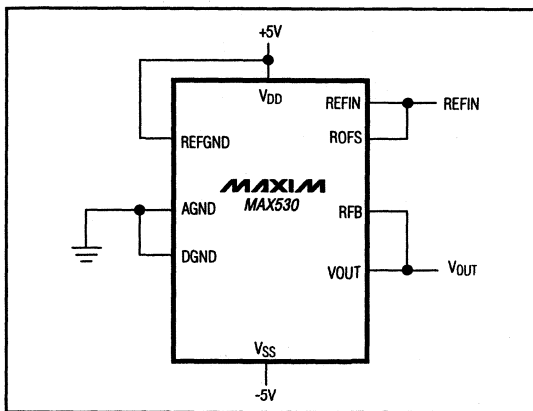

Figure 12. Four-Quadrant Multiplying Circuit
The MAX530 can be used as a four-quadrant multiplier by connecting ROFS to REF_{IN}, using (1) an offset dual or twos-complement digital code, (2) bipolar power supplies, and (3) a bipolar analog input at REF_{IN} within the range $V_{SS} + 2V$ to $V_{DD} - 2V$, as shown in Figure 12.